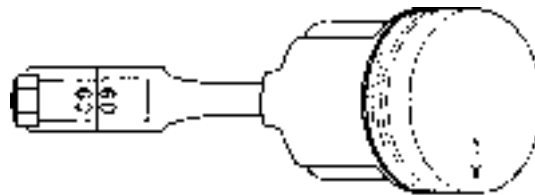

Fig. 53. Number marking on connecting rod and cap
3. Check that the marking on the piston top, alt. in the piston and on the connecting rod, correspond with Fig. 53.
Note: The main bearing cap should be fitted so that the number/colour marking on the crankshaft and cap correspond (Fig. 53).